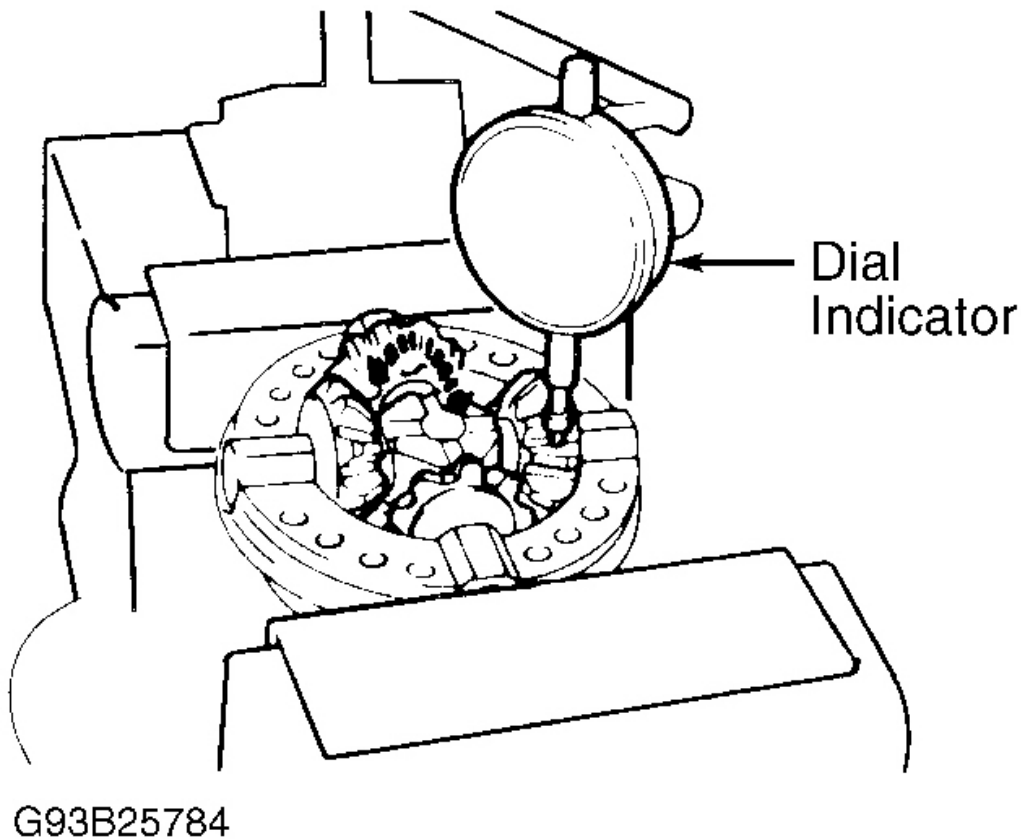

Fig. 45: Measuring Front Differential Side Gear Backlash
4. On A-241H, install following parts in front differential left case: side gear thrust washer, side gear, 2 differential pinion gears, 2 pinion gear thrust washers, pinion shaft and pinion shaft pin. Use a dial indicator to measure backlash of one pinion gear while holding side gear toward case. See **Fig. 45** . Backlash should be .0020-.0079" (.050-.200 mm). If backlash exceeds specification, install thrust washers of different thickness. **DO NOT** overtighten vise.
5. Perform same procedure described in step 4 for front differential right case. See **Fig. 45** .